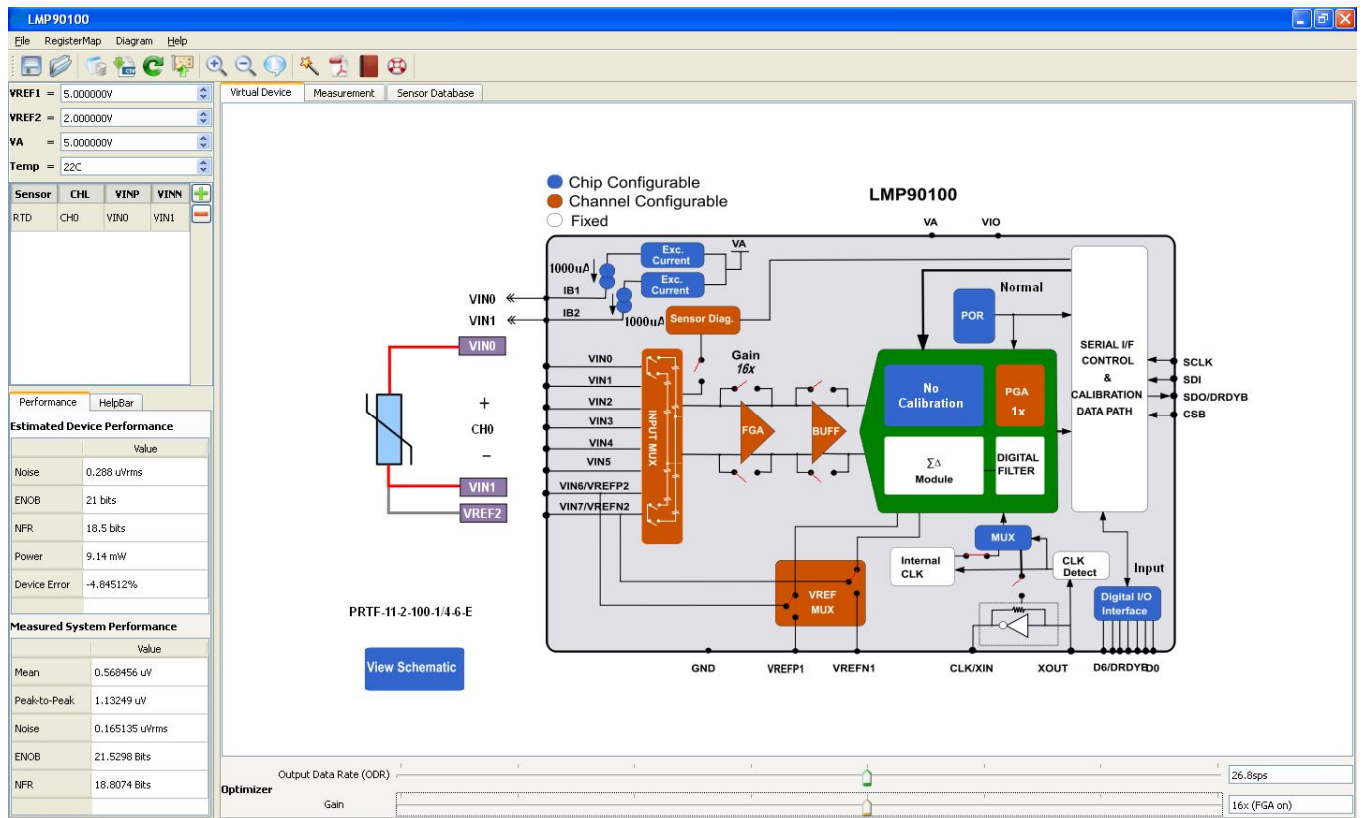

Figure 12 - Recommended LMP90100 Configuration for a PT-100 RTD Reading
1. Follow the step-by-step instructions under the “**HelpBar**” mini-tab to configure the device. The recommended configuration can be seen in Figure 12.